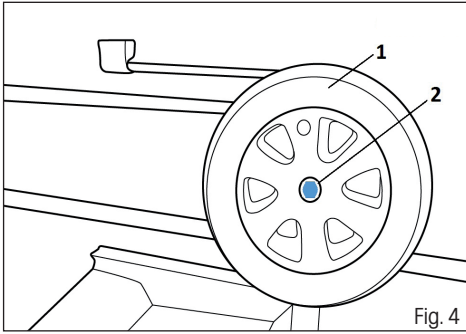

Fig. 4
- Put on the wheel and secure in place using a nut. Fig 4.